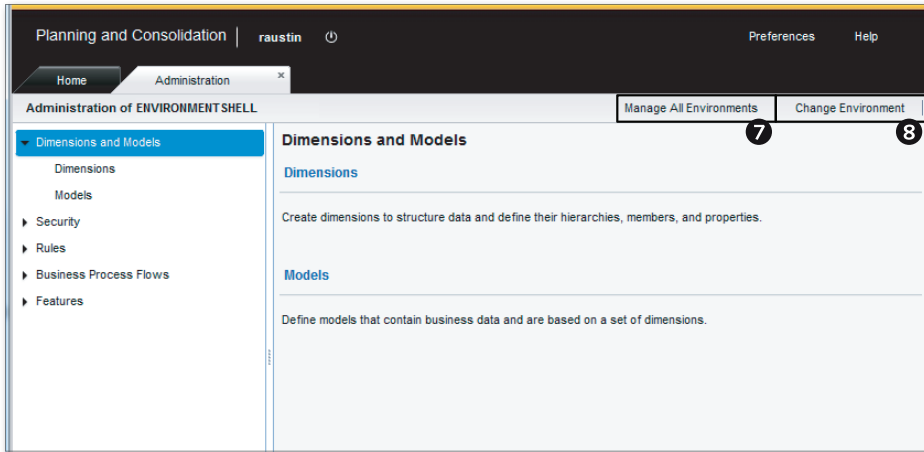
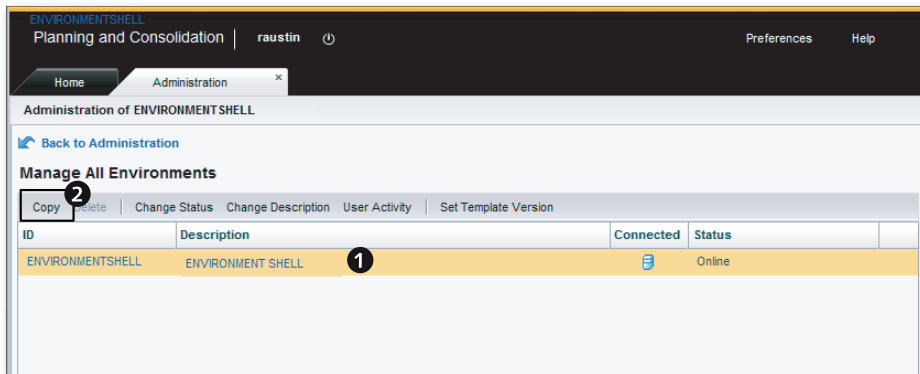
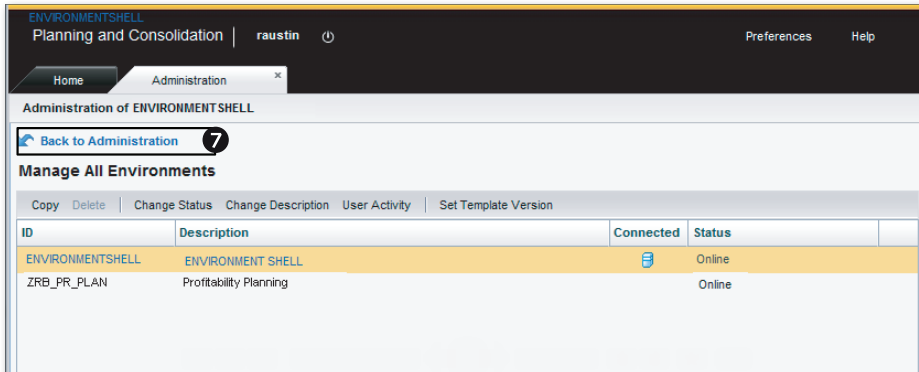
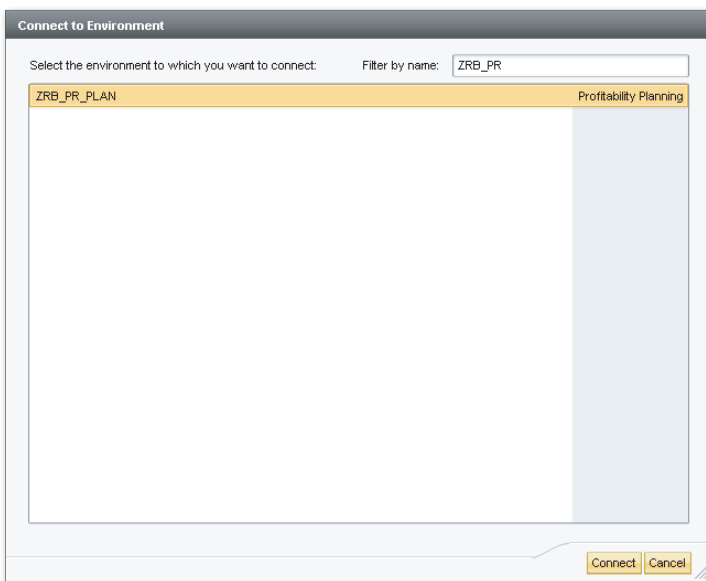

Figure 3.22 Accessing the SAP BPC Web Client—Part C
Figure 3.23 Creating an Environment—Part A
Figure 3.26 Creating an Environment—Part D
Figure 3.27 Connect to Environment—Part E
5. A new **ADMINISTRATION** workspace opens and includes the options to administer tasks (Figure 3.22). The navigation pane in the left consists of distinct domains. Under each domain, there are distinct views to perform configuration. The following domains are available:
6. To see the list of environments to which you have been provided access, click on **MANAGE ALL ENVIRONMENTS** (Figure 3.22, 7). If you do not see a particular environment, you do not have authorization to access it.
7. To change from the current environment into a different environment, click on **CHANGE ENVIRONMENT** (Figure 3.22, 8).
1. Follow the steps listed in Section 3.3.1 to log in to the SAP BPC Web Client. Click on **MANAGE ALL ENVIRONMENTS** as shown earlier in Figure 3.22 (7) to administer environments. Figure 3.23 lists the various options for managing the environments. Only the environments you have access to are displayed in the screen. Also, some of the buttons may be grayed out depending on your access level. To create a new environment that is a copy of the ENVIRONMENT SHELL environment, select the ENVIRONMENT SHELL environment as shown in Figure 3.23 (1). Then click on **COPY** as shown in Figure 3.23 (2).
4. After the background job for creating the environment completes successfully, the new environment is listed in the environments available for access (Figure 3.26).
Even though you've created a new environment, the session information continues to show the ENVIRONMENT SHELL environment because you're connected to this environment. To access the new environment, ZRB_PR_PLAN, click on BACK TO ADMINISTRATION, as shown in Figure 3.26 (7). This takes you back where you can now click on CHANGE ENVIRONMENT as shown earlier in Figure 3.22 to change the environment you want to connect to. This opens the screen shown in Figure 3.27, where you'll select an environment to connect to.